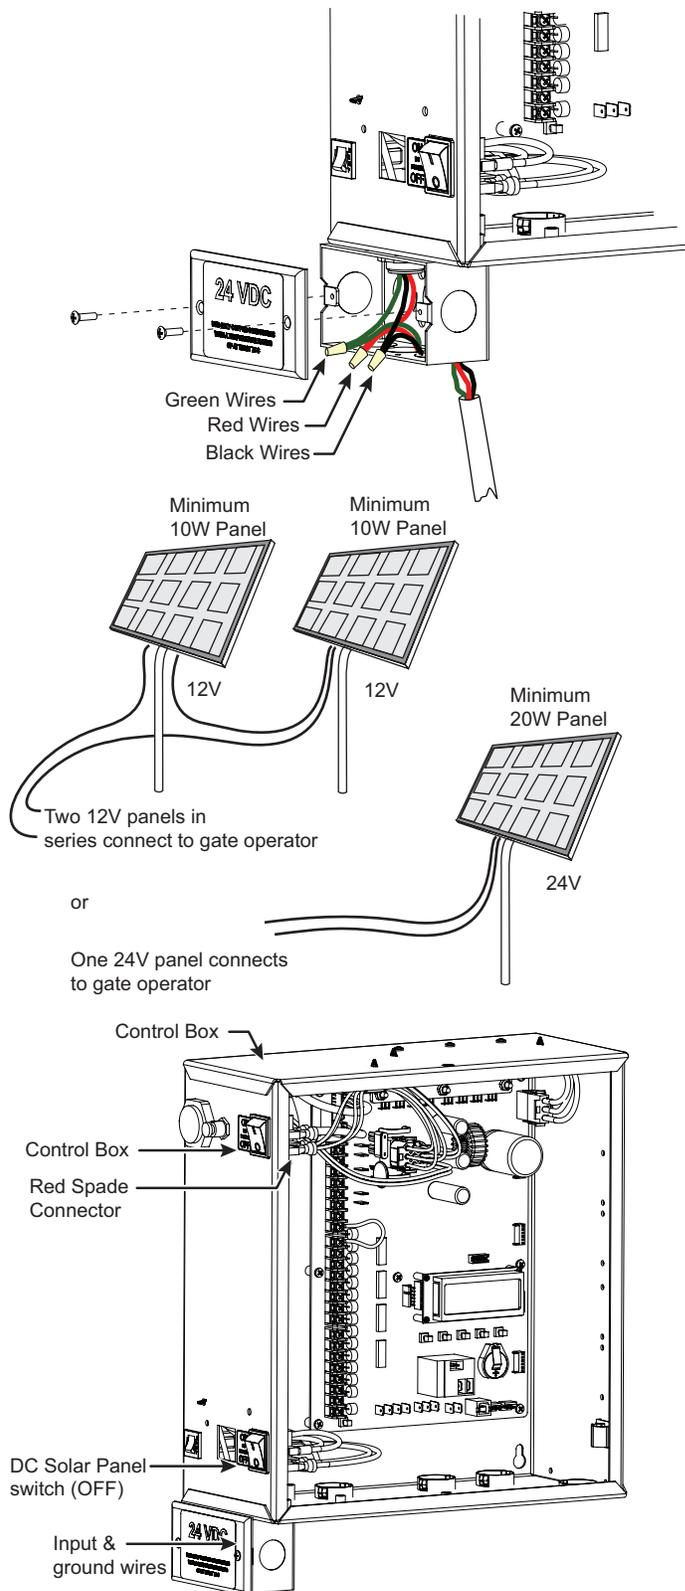

Figure 21. Solar Panels and Wiring Connections
4. Wire nut or crimp bond the solar panel wires to the black and red input wires. See Figure 21.
6. Slide the plastic cover off the control box and attach the red spade connector to the battery terminal on the upper DC power switch. See Figure 21.